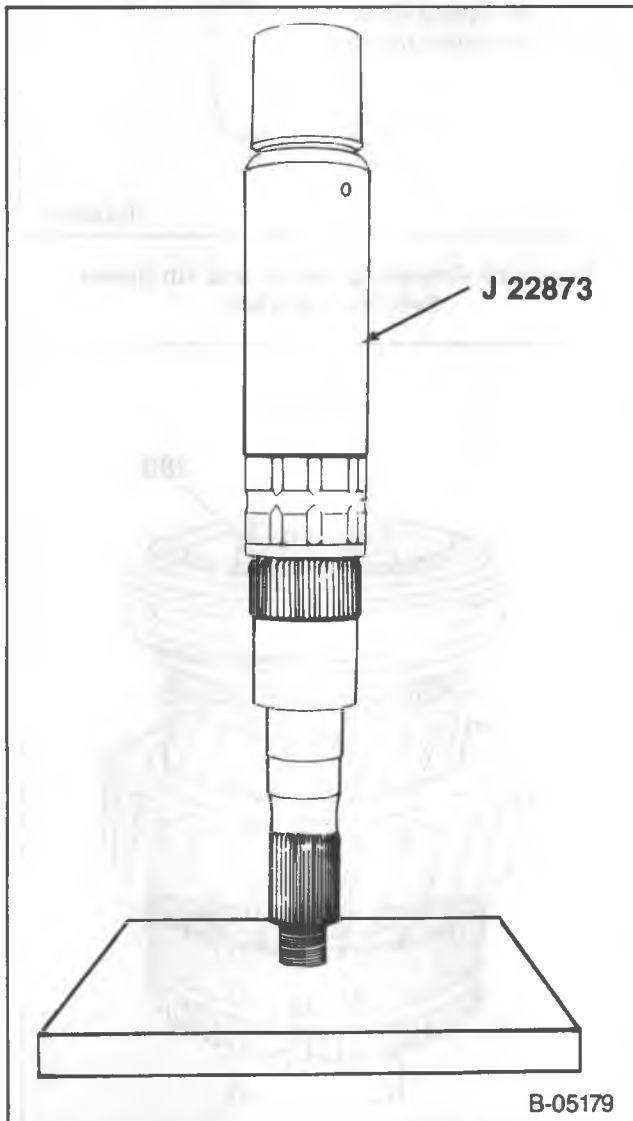

Figure 16 –Installing the 2nd Speed Bushing
2. 2nd speed bushing, using J 22873, (figure 16).